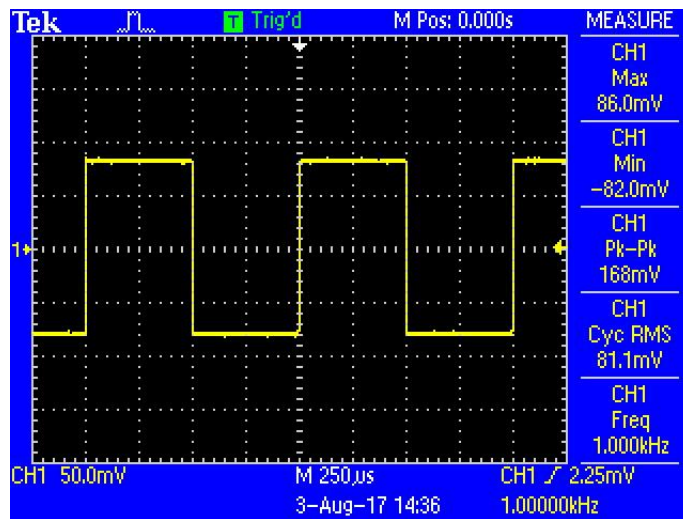

Fig.95 Measured Signal Parameter Diagram
3. Turn on the function signal generator and set “Function: Square”, “Amplitude: 80mVrms”, “Frequency: 1 kHz”, as is shown in Fig.95.